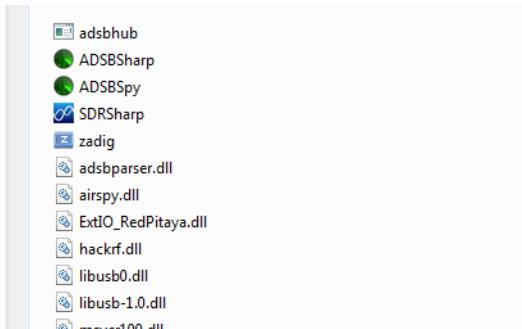

Figure 9-3 SDRSharp program
- To run SDR#, go to the directory where you unzipped the file and double-click SDRsharp (see Figure 9-3).